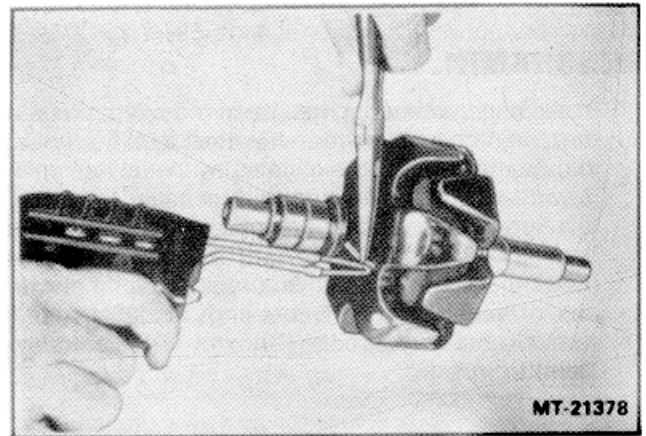

Figure 21 - Disconnecting Slip Ring Leads.
- Unsolder the slip ring leads and lift them clear of the eyelets which serve to retain them to the rotor coil leads. Do not lose or damage the eyelets (See Figure 21).